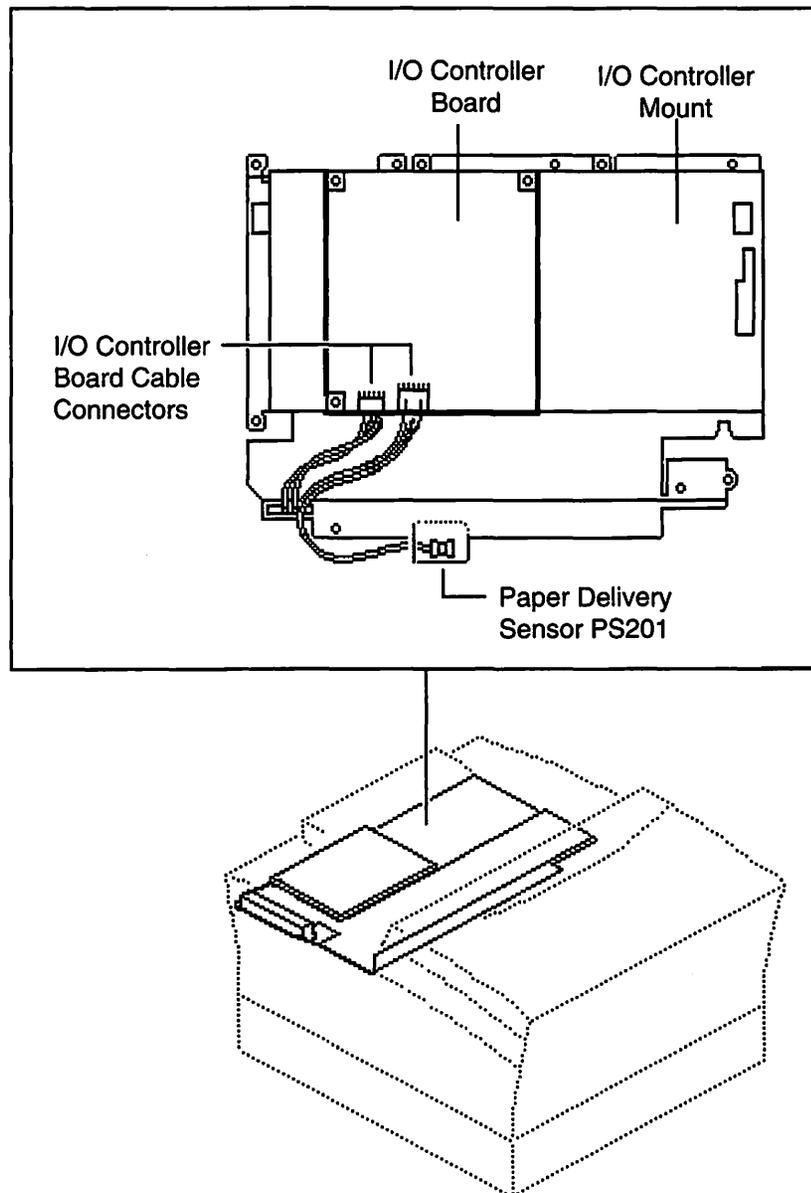

Figure 1-5
- The I/O controller board (see Figure 1-5) controls communication between the printer and external devices, and prints the user test page. The I/O controller board contains the external device cable connectors (not shown), paper delivery sensor (discussed later), ROM, and RAM. The I/O controller board is mounted on the I/O